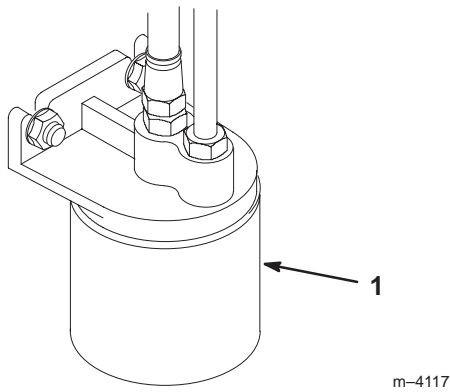

Figure 47
3. Place drain pan under filter, remove the old filter and wipe the filter adapter gasket surface clean (Fig. 47).